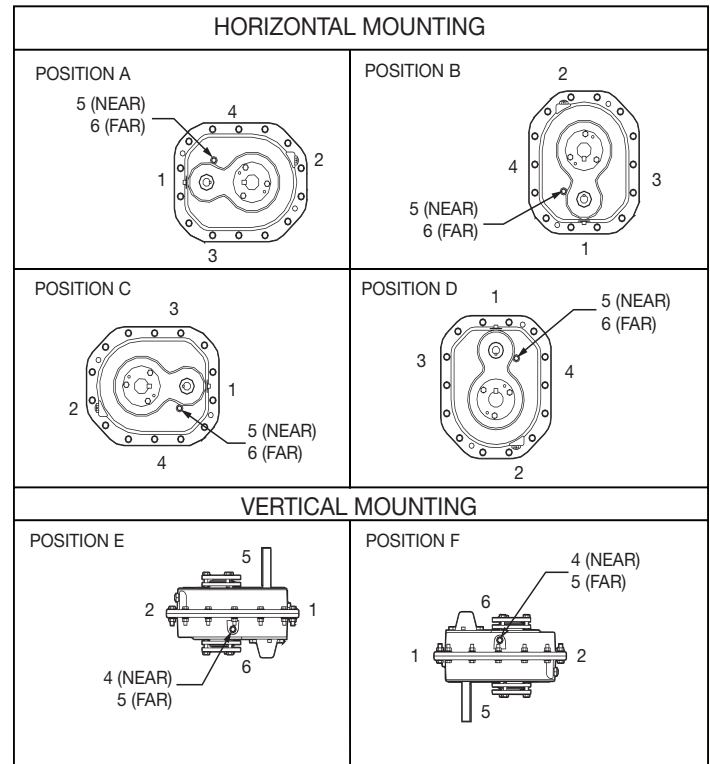

Figure 1 - Mounting Positions
2. Determine the running positions of the reducer (see Figure 1). Note that the reducer is supplied with six plugs; four around the sides for horizontal installations and one on each face for vertical installations. These plugs must be arranged relative to the running positions as follows:
Vertical Installations—Install the filter/ventilation plug in the hole provided in the upper face of the reducer housing as installed. If space is restricted on the upper face, install the vent in the highest hole on the side of the reducer per Figure 1. Install a plug in the hole in the bottom face of the reducer. Do not use this hole for the magnetic drain plug. Of the remaining holes on the sides of the reducer, use the plug in the upper housing half for the minimum oil level plug.
*Below 15 RPM output speed, oil level must be adjusted to reach the highest oil level plug. If reducer position is to vary from those shown in Figure 1, either more or less oil may be required. Consult your Dodge sales representative. The running position of the reducer in a horizontal application is not limited to the four positions shown in Figure 1. However, if the running position is over 20° in position B and D or over 5° in position A and C—either way from sketches—the oil level plug cannot be used safely to check the oil level, unless during the checking the torque-arm is disconnected and the reducer is swung to within 20° for position A and C or to within 5° for position B and D of the positions shown in Figure 1. Because of the many possible positions of the reducer vent seepage might occur and it may be necessary or desirable to make special adaptations using the lubrication filling holes furnished along with other standard pipe fittings, stand pipes, and oil level gauges as required.